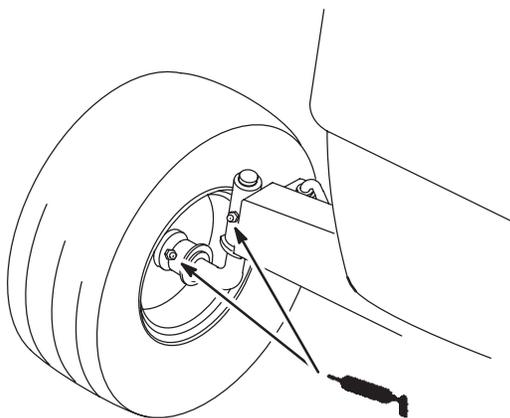

Figure 14
1. Lubricate the front wheels and steering spindles until grease begins to ooze out the bearings (Fig. 14).